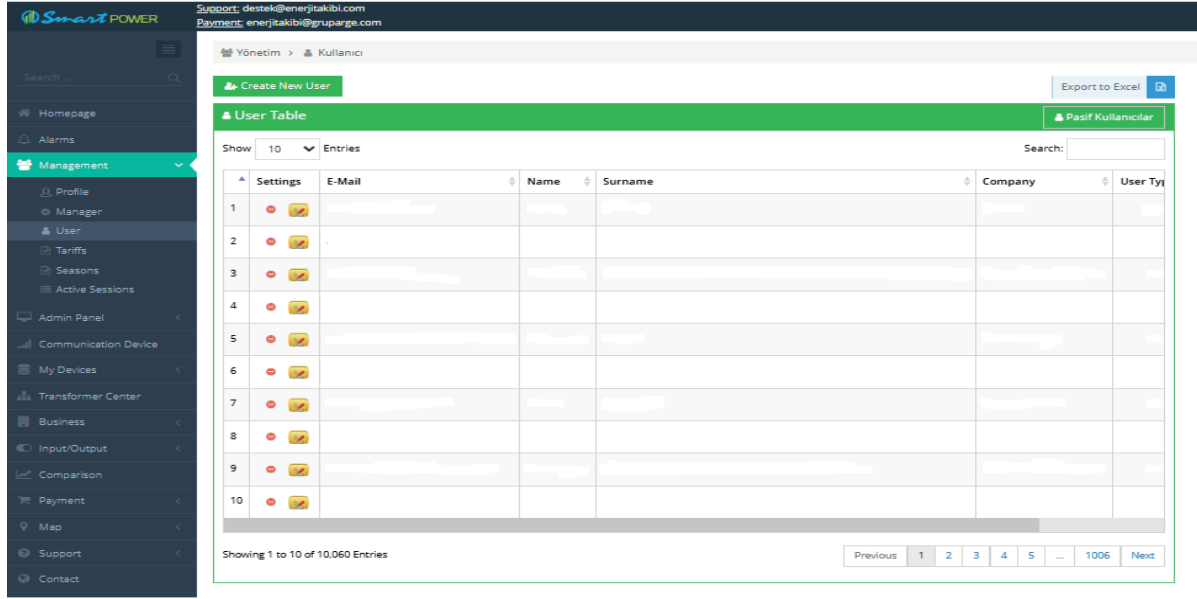

Figure 5.8
10. To create a new user, go to “Administration” → “User” → “Create New User”, fill in the required user information, and create a sub-user account. (Figure 5.8)